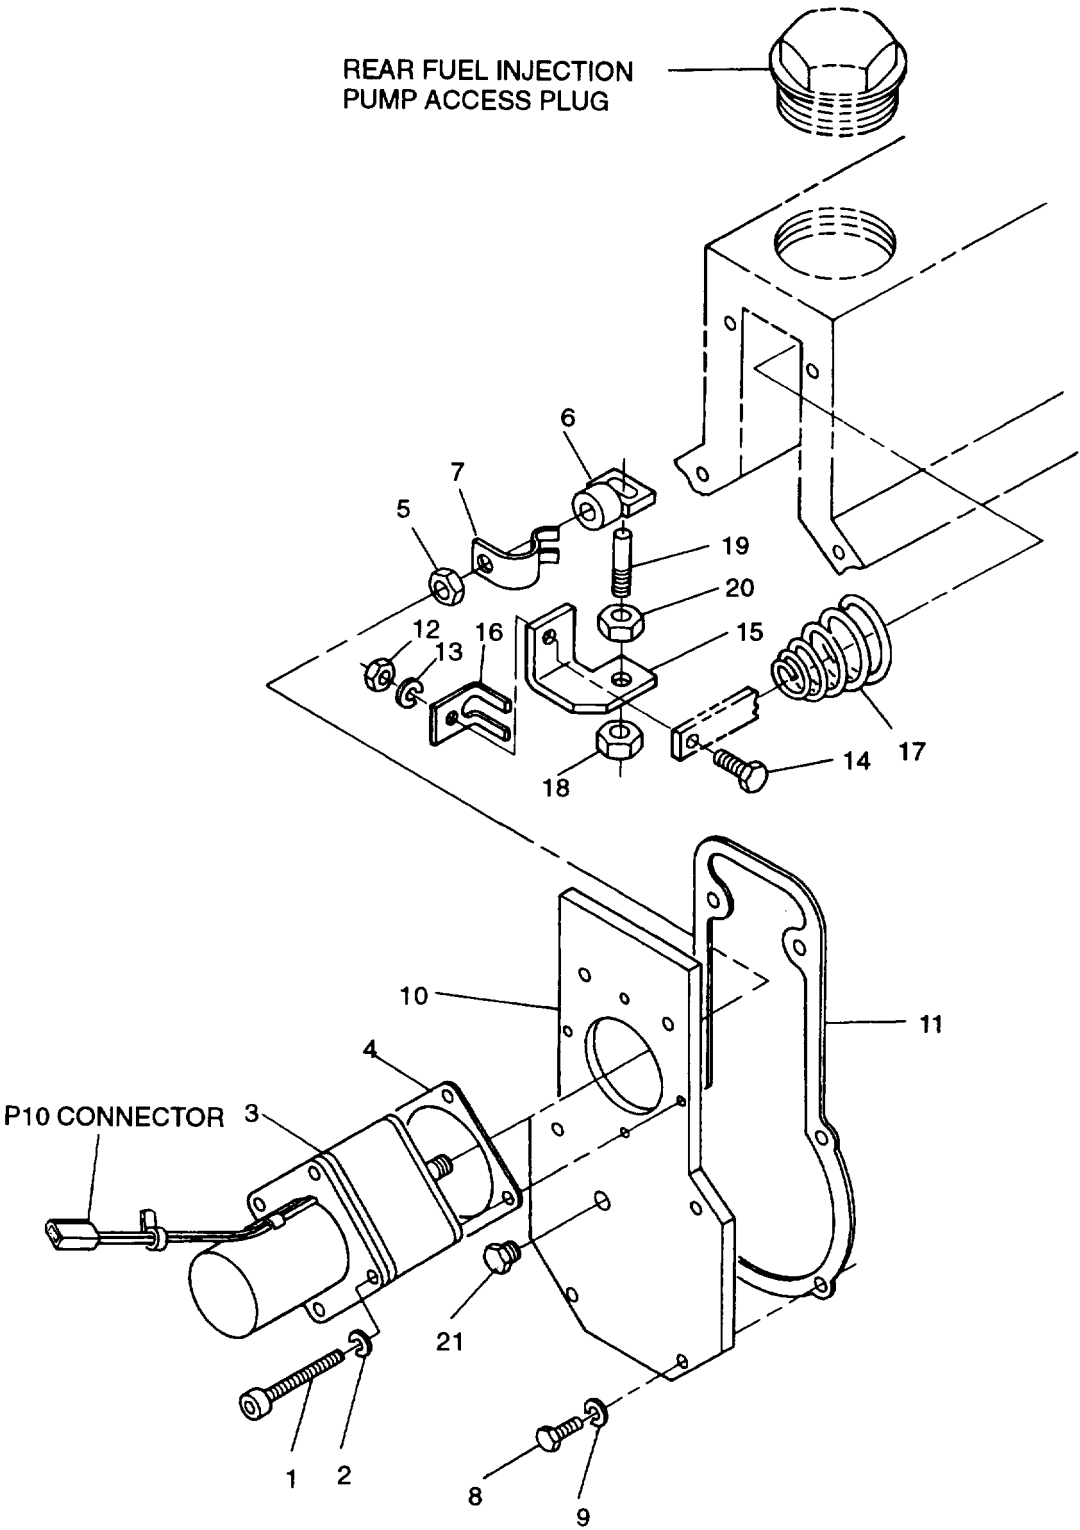

FIGURE 4-8. Governor Actuator Assembly
- f. Remove screw (1, FIGURE 4-8), washer (2), and screen/cover (3) from generator case.
- g. Remove bolts (4) and lockwashers (5) securing generator drive disc to engine flywheel.
- h. Remove bolts (6) and lockwashers (7) securing generator to engine flywheel housing.
- i. Remove nuts (8), washers (9), snubbing washers (10), bolts (11), and Belleville washers(12) securing generator to skid base.
- k. Remove shock mounts (13) from skid base.
- l. Remove nuts (14), washers (15), bolts (16), angles (17), and plates (18) from generator.
- a. Position generator shock mounts (13, FIGURE 4-8) in skid base.
- b. Install angles (17) and plates (18) on generator with bolts (16), washers (15), and nuts (14).